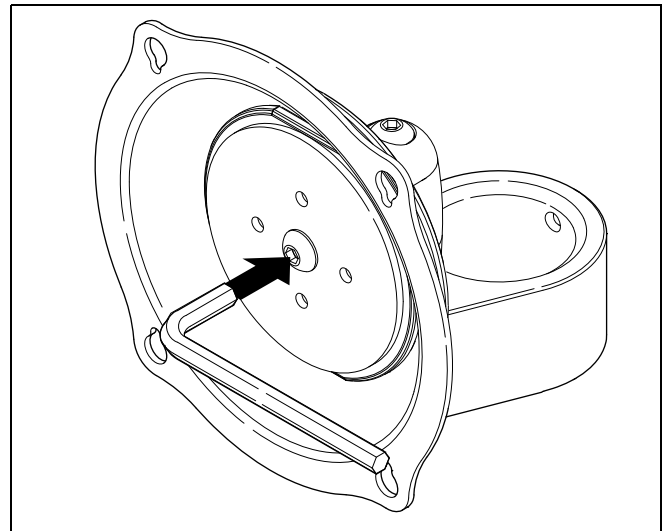

**Figure 4**
2. Align two screws in display back with upper mounting holes in Centris cup and lower display until screws are seated in lower area of teardrop mounting holes. (See Figure 4)
3. Install two more of the same screws through lower mounting holes in Centris cup and into display back. (See Figure 4)